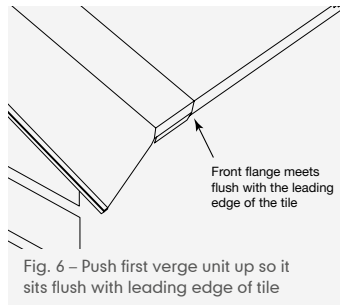

Fig. 6 – Push first verge unit up so it sits flush with leading edge of tile
- 6 Push the verge unit up so that the front flange meets flush with the leading edge of the tile (Fig. 6). Fix the verge unit to the tiling batten by means of mechanical